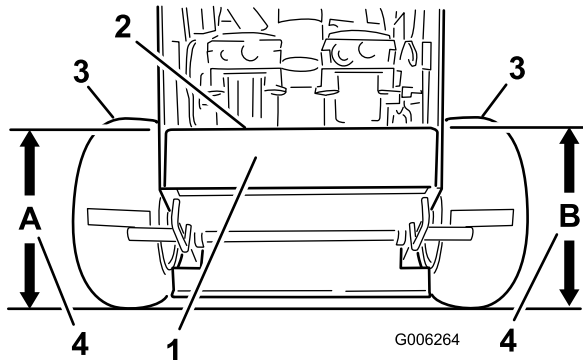

Figure 67
4. Measure engine deck height at location **A** (Figure 67).
5. Measure engine deck height at location **B** (Figure 67).